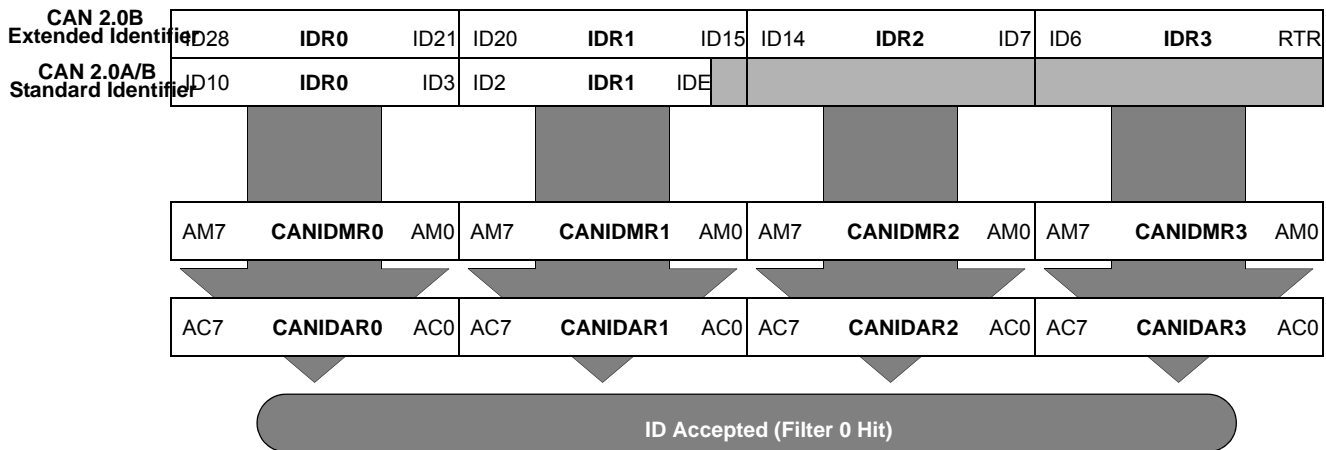

Figure 18-40. 32-bit Maskable Identifier Acceptance Filter
- Figure 18-40 shows how the first 32-bit filter bank (CANIDAR0–CANIDAR3, CANIDMR0–CANIDMR3) produces a filter 0 hit. Similarly, the second filter bank (CANIDAR4–CANIDAR7, CANIDMR4–CANIDMR7) produces a filter 1 hit.